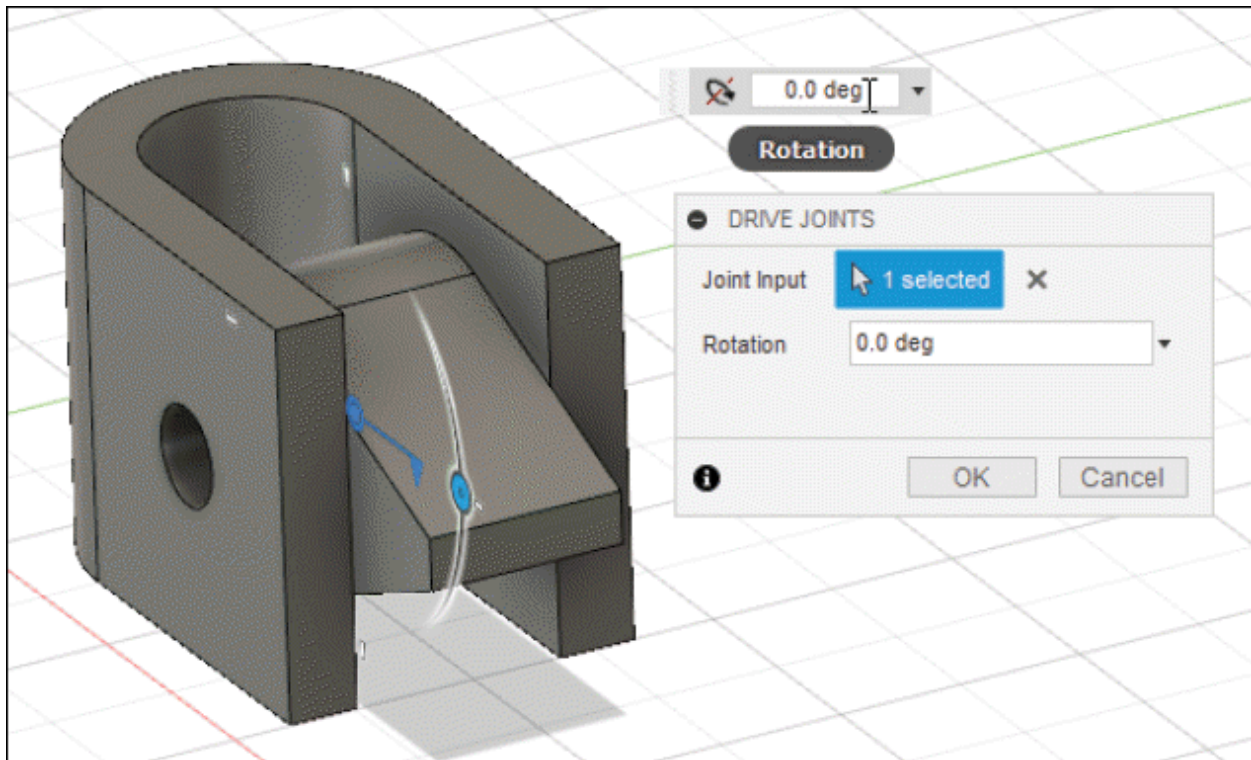

Figure-44. Updated DRIVE JOINTS dialog box
- The **Joint Input** selection is active by default. Click on the joint from model. The updated **DRIVE JOINTS** dialog box will be displayed; refer to Figure-44.